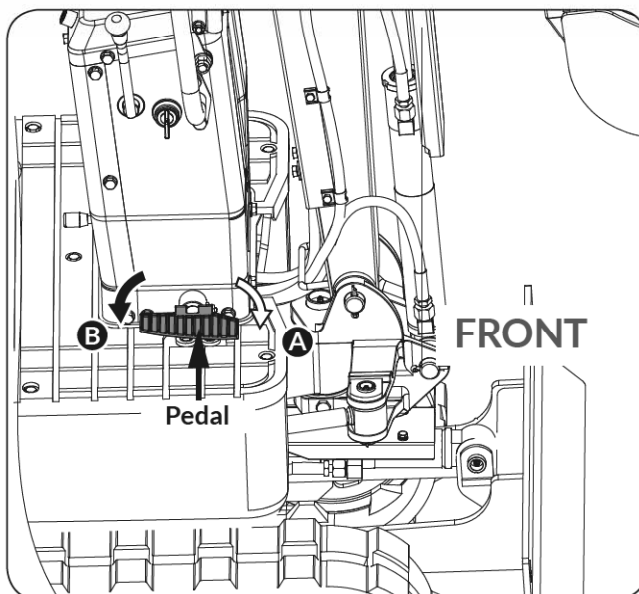

Figure 42
2. Step on the rear of the pedal to swing the boom to the right. (See **Figure 42 & 43**)